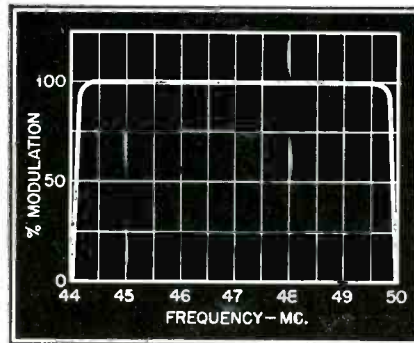

Fig. 1 — R-F stage response curve obtained when r-f unit is tuned to 47 Mc.
1. A wide band-pass of frequencies on either side of the resonant frequency to which the r-f stage is tuned. This band-pass is 3 mc wide on each side of the center frequency. Thus, a total of 6 mc is included in the response curve of Fig. 1 which illustrates the ideal condition obtained in an r-f stage tuned to channel No. 1 44-50 mc.